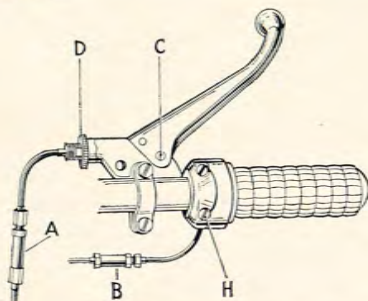

Fig. 2.
Twist Grip. Mounted on the right handlebar, it controls the throttle opening and consequently the motor speed. To open the throttle (i.e. to increase motor speed) turn the grip so that the top moves towards the rider. Excess slackness in the cable can be removed by means of an adjuster (B), Fig. 2, incorporated in the cable.
Front Brake. The lever is mounted on the right handlebar in front of the throttle control and its position can be adjusted as required. The looseness of the lever is adjusted by rotation of screw (C) after slackening its locknut. Grip the lever gently to operate the brake. The main adjuster (A), Fig. 2, is situated midway in the cable and finger adjustment (D) for the cable is provided at the adapter on the handlebar lever.